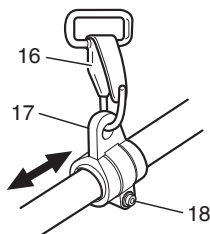

Fig. 7
Attach the harness hook (16) to the hanger (17) on the drive shaft tube. (Fig. 7)
You may need to adjust the position of the hanger (17) to balance the unit. To do so, loosen bolt (18) and adjust the position of hanger (17). After adjusting as necessary, make sure to securely tighten the bolt (18). (Fig. 7)